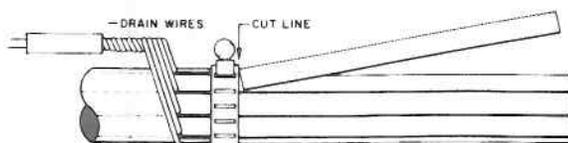

FIGURE 3
3. Install a hose clamp. Ring cut 80% through cable jacket at leading edge of hose clamp and remove jacket. See Figure 3.
4. Twist drain wires together to form a pigtail. Connect to a #6 AWG (minimum) solid copper ground wire. See Figure 3.